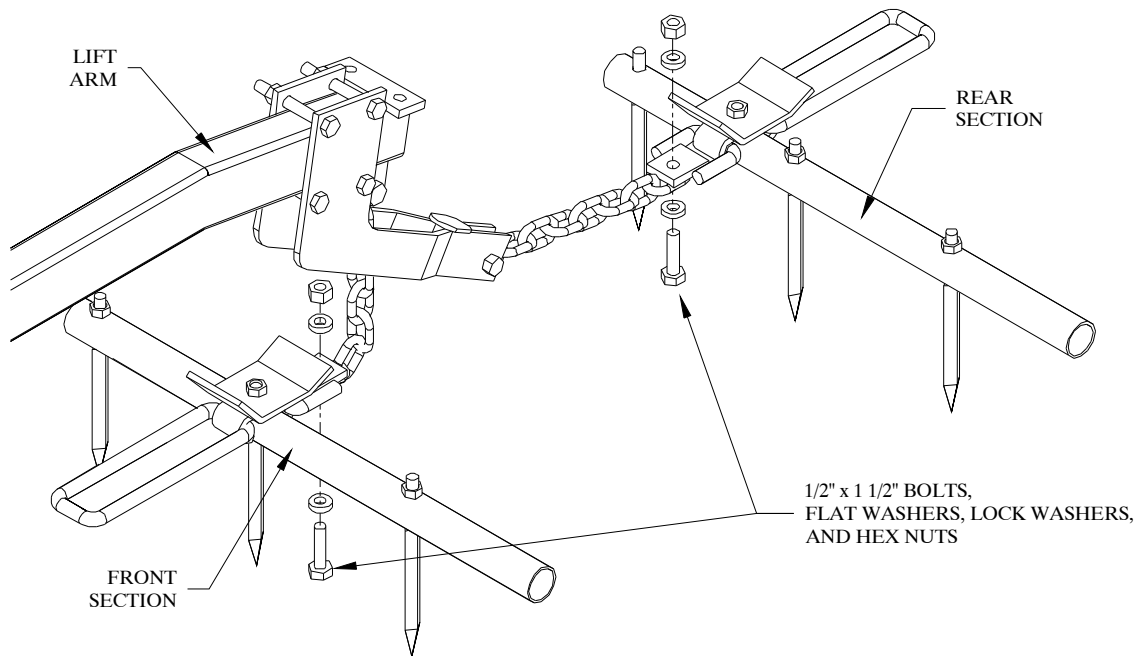

Figure 19
2. Bolt the lift chains to the bottom of the rear lift tabs of the front harrow sections. Refer to Figure 19. Use ½” x 1 ½” bolts, flat washers, lock washers, and hex nuts.